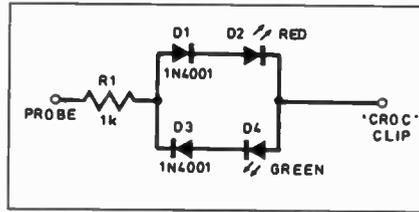

Fig. 4. Simple car electrics probe to determine presence and polarity of voltage.
**Mr. S. Mercer** of Retford, Notts., dropped me a line seeking help with a UV Light Unit, and also offered a simple design for a Car Electrics Probe (shown in Fig. 4).